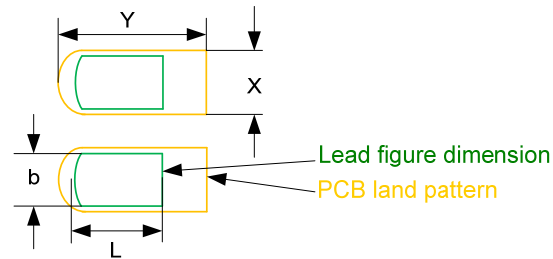

Figure 5. Lead Pads
The Pad width (X) should be a minimum 0.05mm wider (0.025mm each side) than the package terminal width (b) as shown in **Figure 5** below.